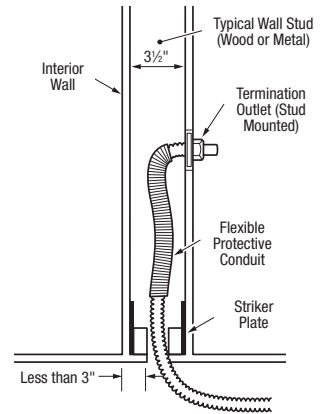

Figure 4.12 Use of Flexible Protective Conduit
- 3. At termination points using the HOME-FLEX® termination flange, HOME-FLEX® Flexible Protective Conduit should be installed to protect the CSST in the area between the striker plates and the outlet. (Figure 4.12)